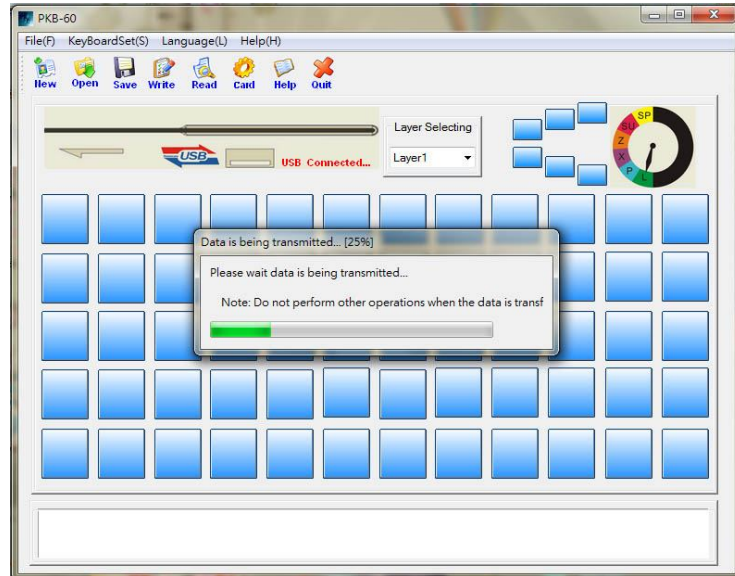

Figure 3.1.1
**Step 1.** Before programming any key, please read the default key value from your PKB-60 keyboard first by pressing **[Read]** button. It will pop up the dialogue that data is transferring, see *Figure 3.1.1*